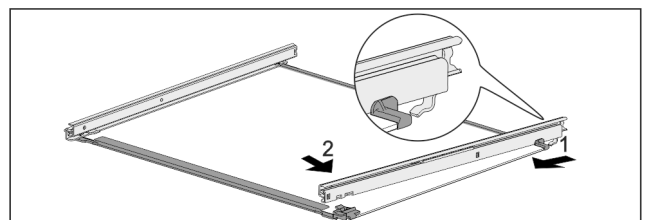

Fig. 116 Glass shelf with rails
- ▶ Hook in rail at the back. Fig. 116 (1)
- ▶ Hook in rail at the front. Fig. 116 (2)